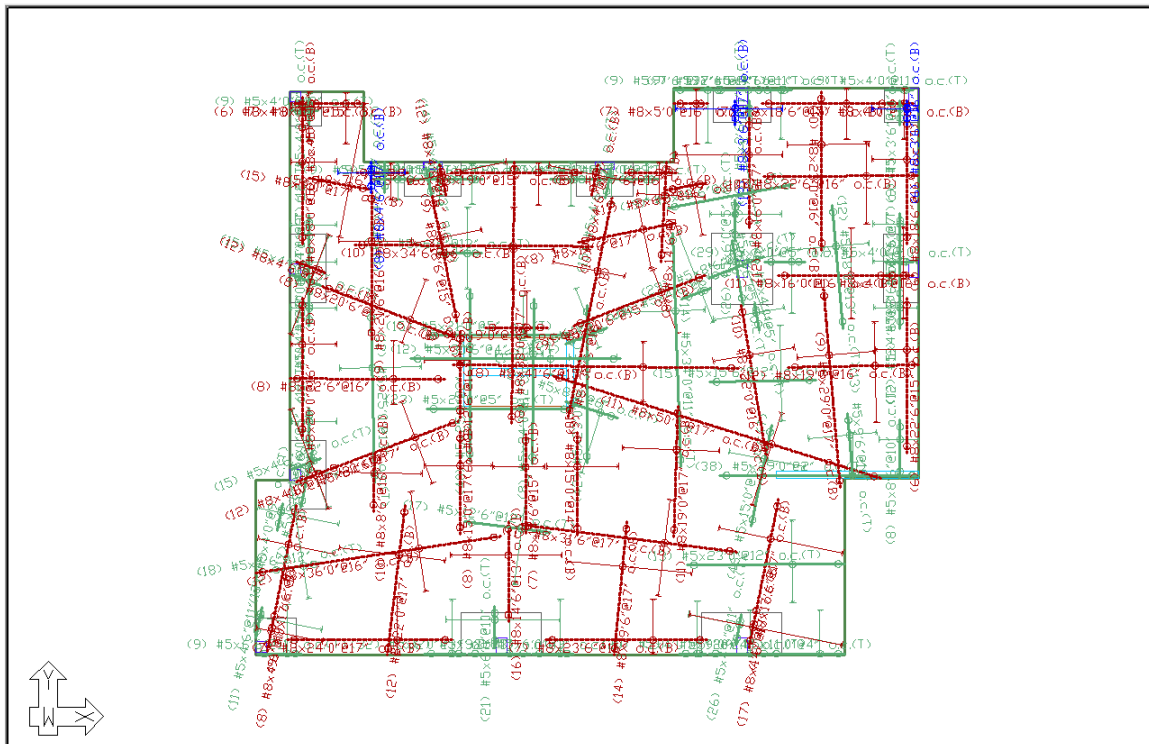

FIGURE 10-30
- Click the **OK** button to generate the Envelope rebar needed to satisfy all design criteria with the default options of the program. When done the users' screen should be the same as shown in **FIGURE 10-30**.